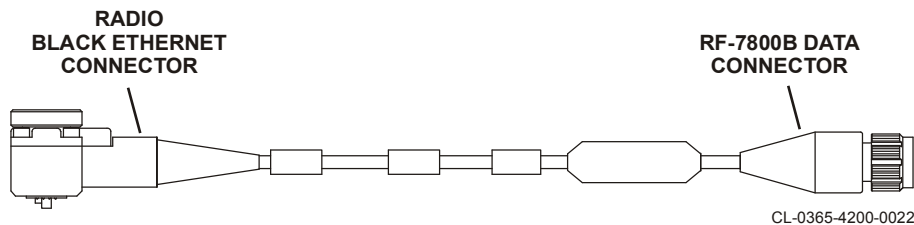

Figure 3-7. BGAN to Radio Black Ethernet Cable, 12043-0830-A006 (Optional)
- See Figure 3-7 for BGAN to Radio Black Ethernet Cable, 12043-0830-A0xx (optional).